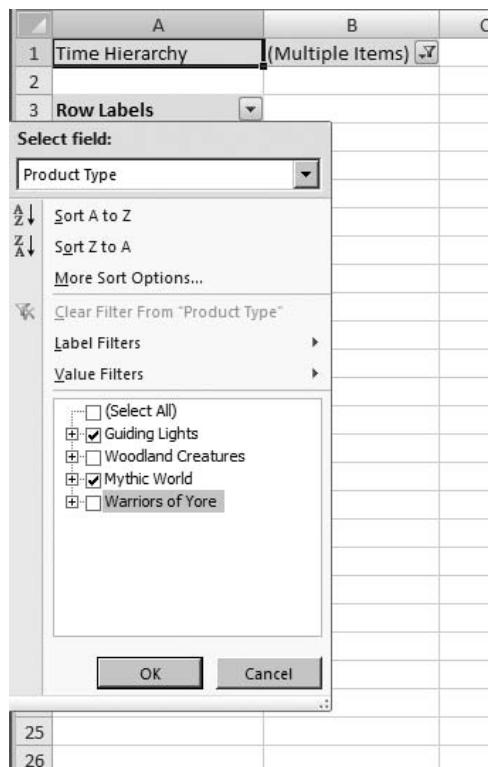

Figure 19-10 The Row Labels drop-down window
25. Uncheck the Woodland Creatures and Warriors of Yore items. The Row Labels drop-down window is shown in Figure 19-10.